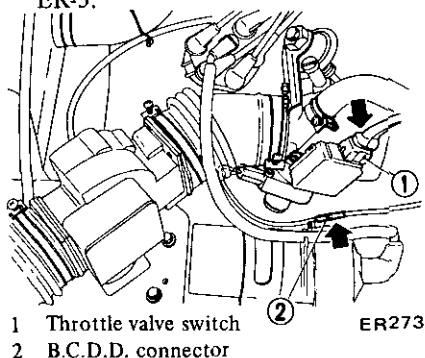

Fig. ER-5 Disconnecting wire for throttle valve switch and B.C.D.D. solenoid valve
- Wire to throttle valve switch and B.C.D.D. solenoid valve. See Figure ER-5.